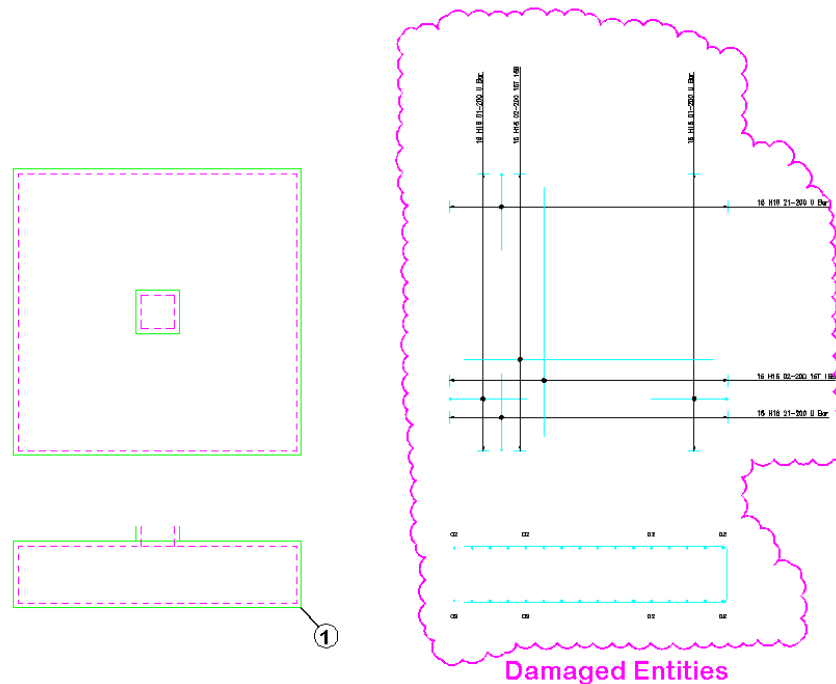

Figure 8.2.2:2 Damaged RebarCAD Entities identified by the Check Database command
- Select objects: Specify base point or displacement: Pick point 1 as shown on figure 8.2.2:2 below